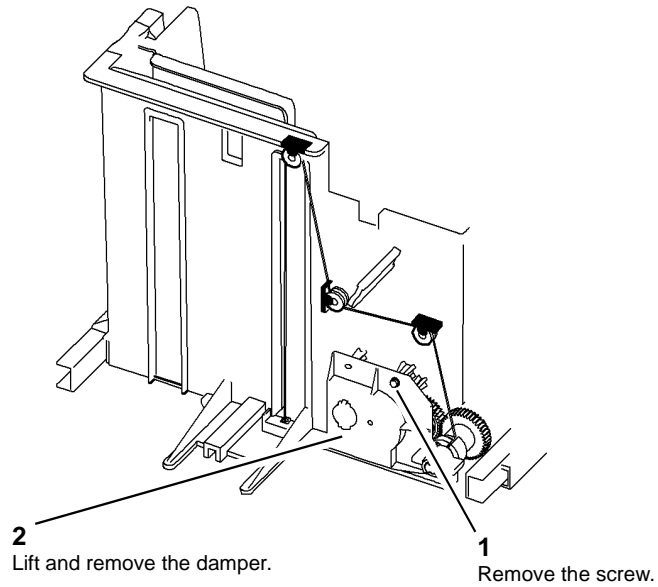

Figure 2 Tray 4 damper removal
3. Remove the damper from tray 4, Figure 2.